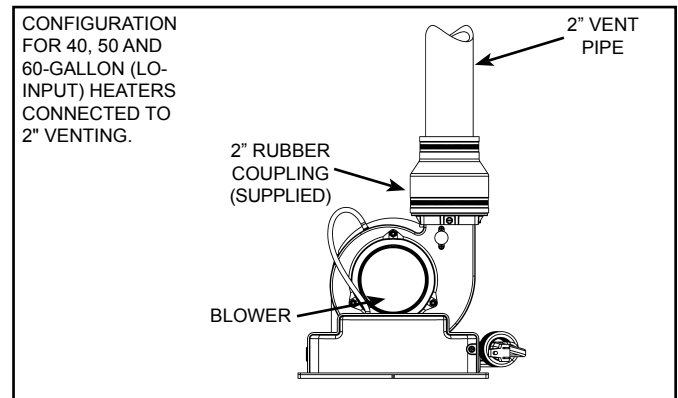
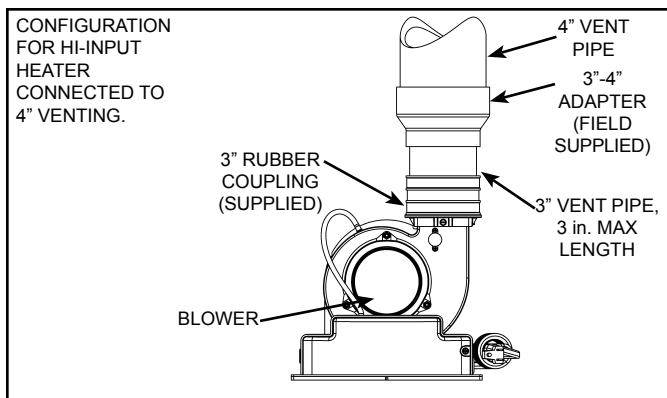

Figure 37.
Figure 41.
1. The plastic vent piping connects into the rubber coupling located on the top of the blower assembly. This coupling includes gear clamps to connect the venting to the blower. These connections must be properly seated and tightened to prevent the leakage of flue gases into the area. See Figure 37 thru Figure 41.